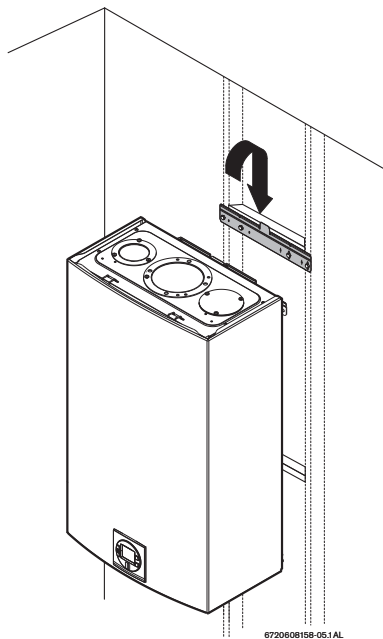

Fig. 26 Mounting the heater
- ▶ Hang the appliance on the bracket, see Fig. 26, page 22.